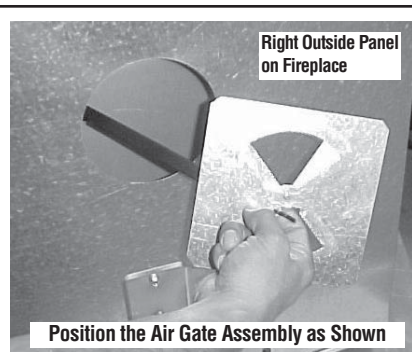

Figure 10 - Air Gate Assembly to Fireplace
- b. Take the Air Gate Assembly and feed the arm through the round opening (see **Figure 10**) and then through the side frame opening in the front as shown in **Figure 11**.